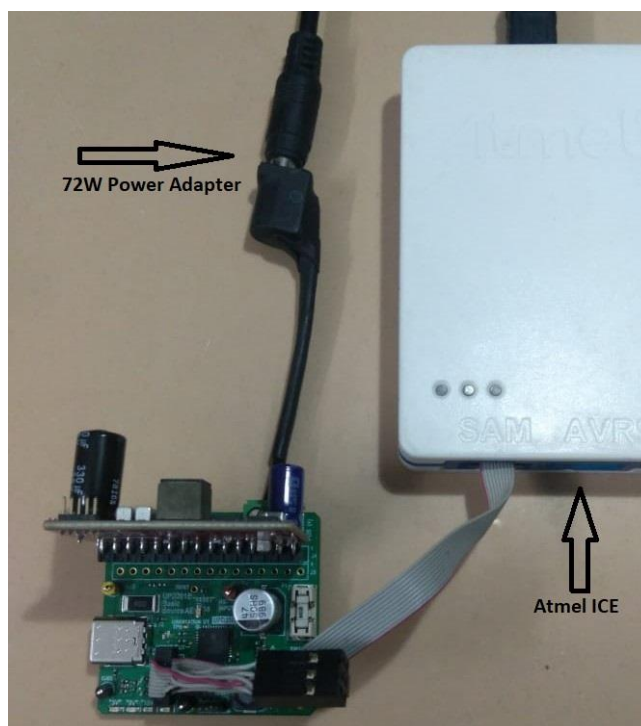

Figure 5.3 PSF-EVB Full Setup
2. Connect the power adapter as shown in the figure 5.3.